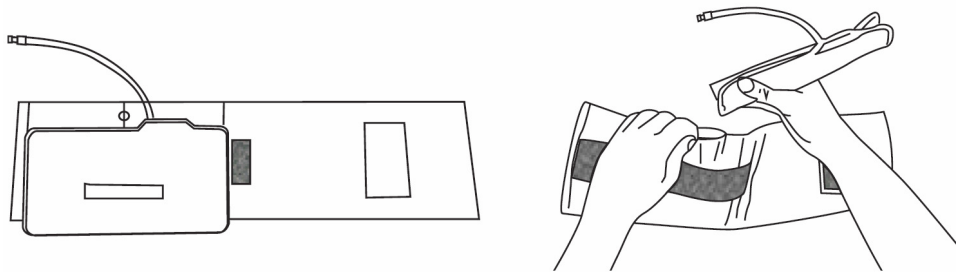

FIGURE 26-1 Example NIBP Cuff
1. Place the bladder on the top of the cuff (as shown in FIGURE 26-1).
2. Roll the bladder lengthwise and insert it into the large opening (as shown in FIGURE 26-1).